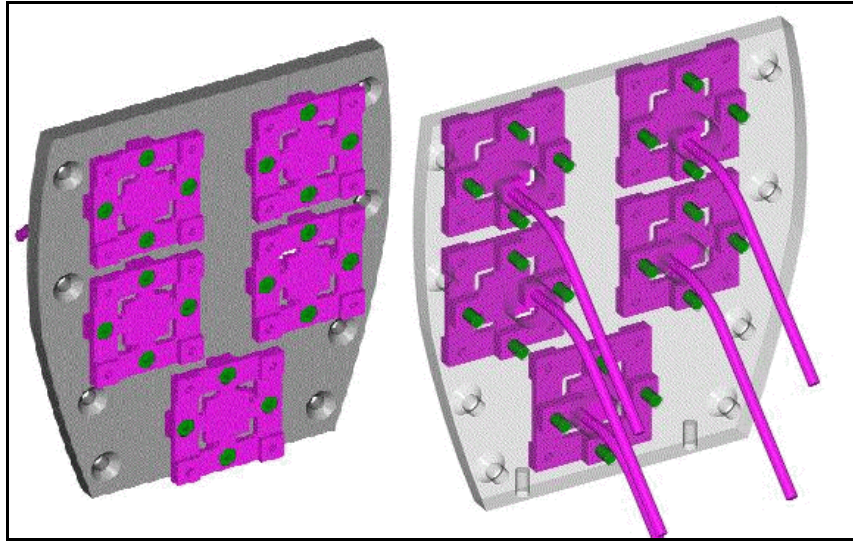

Figure 3.3- Attachment of Load Cells to face plate.
1. Install the face load cells (T1INM430) onto the face plate (T1FCM110) using four #6-32 x 3/8" SHCS {7/64} per load cell. The load cells are oriented onto the face plate so that the instrument wires can easily slide through the holes in the face plate. **Figure 3.3** can be used as a reference for proper rotation of the Load Cells.